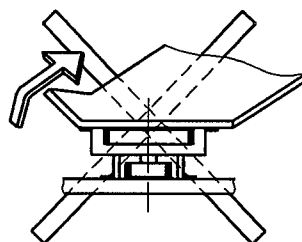

FIGURE-8
- ⚠ ESPECIALLY, PLEASE DO NOT EXTRACT FROM THE CORNER AS FIGURE-8. IT GIVES CRITICAL STRESS TO THE CONTACTS ON THE CROSS CORNER.